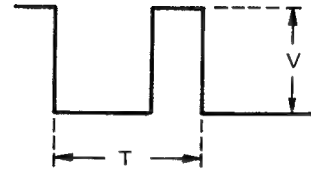

Figure 8-13.
2. Monitoring AK pin 7 with an oscilloscope (internal trigger), check that $T = 20 \text{ msec}$ and $V = 5.5 \pm 0.5V$ (see Figure 8-13).
3. Select VS-FF mode and check that $T = 19.23 \text{ msec}$ and $V = 5.5 \pm 0.5V$ with waveform developing at AK pin 7 (see Figure 8-13).
4. Select VS-REW mode and check that $T = 20.76 \text{ msec}$ and $V = 5.5 \pm 0.5V$ with waveform developing at AK pin 7 (see Figure 8-13).